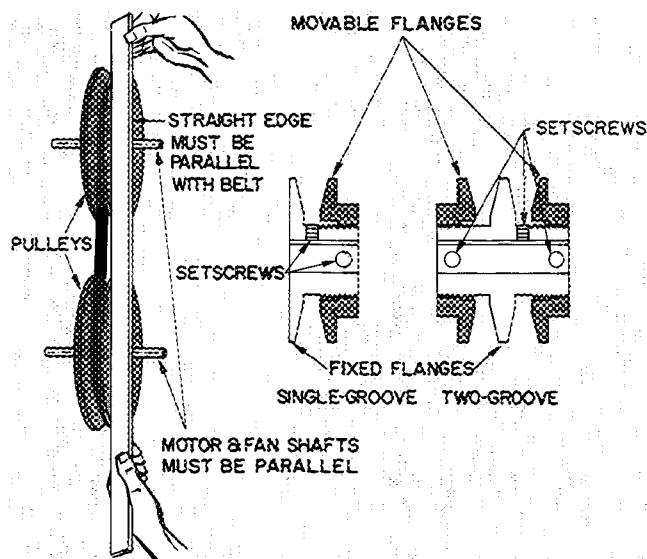

Fig. 30 — Indoor Air Fan Pulley Adjustment
**FAN SPEED ADJUSTMENT** (Fig. 30) — Loosen fan belt by loosening fan motor mounting plate bolts. Loosen movable pulley flange setscrews and remove flange key. Screw movable flange toward fixed flange to increase fan speed and away from fixed flange to decrease fan speed.
**PULLEY ALIGNMENT** (Fig. 30) — Loosen fan pulley setscrews and slide fan pulley along fan shaft for parallel alignment. Make angular alignment by loosening motor from mounting plate.